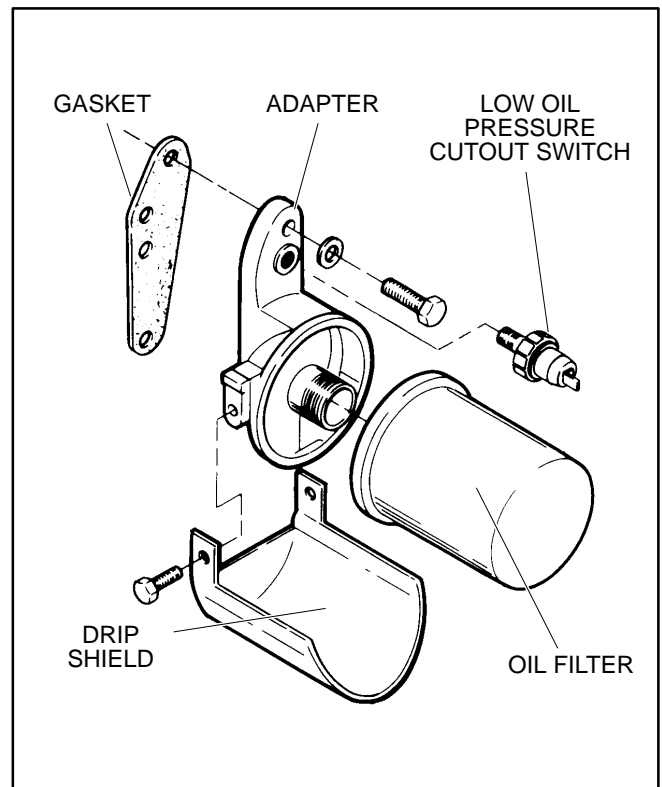

FIGURE 17. OIL FILTER AND PRESSURE SWITCH
3. Loosen the two capscrews that secure the adapter to the engine block and remove the adapter and gasket. The low oil pressure cutoff switch is installed in a threaded hole in the filter adapter. See Figure 17.